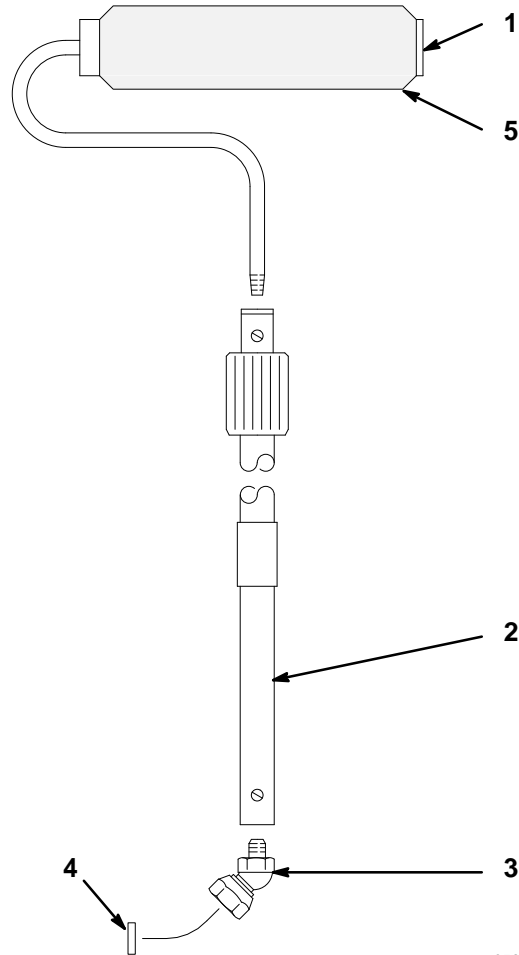

Fig. 2
1. Assemble the roller kit as shown in Fig 2. Be sure the gasket is in place between the gun and adapter.